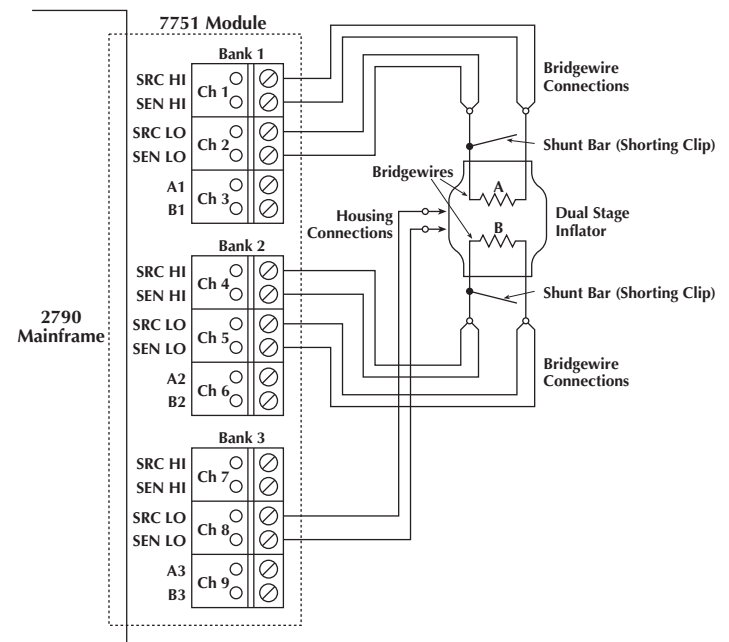
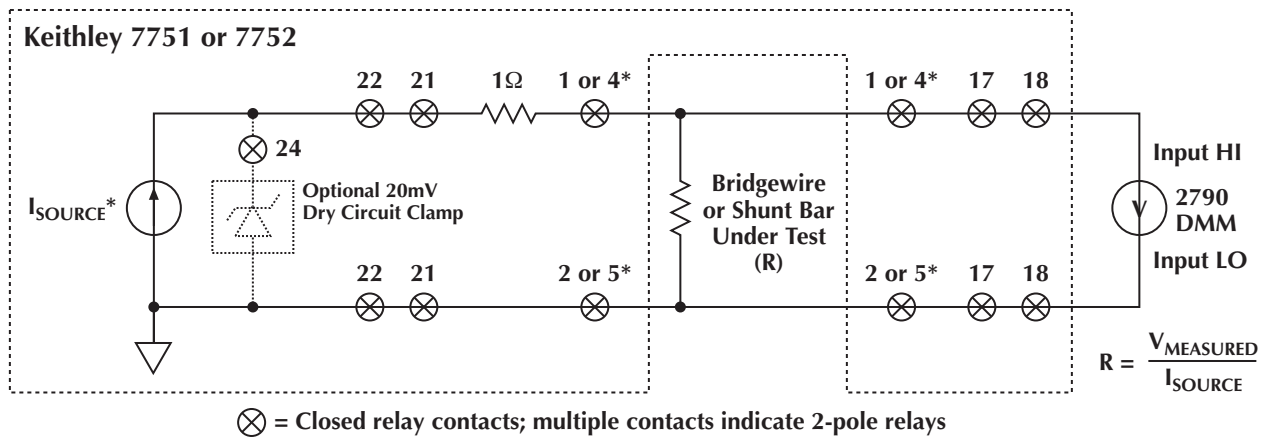
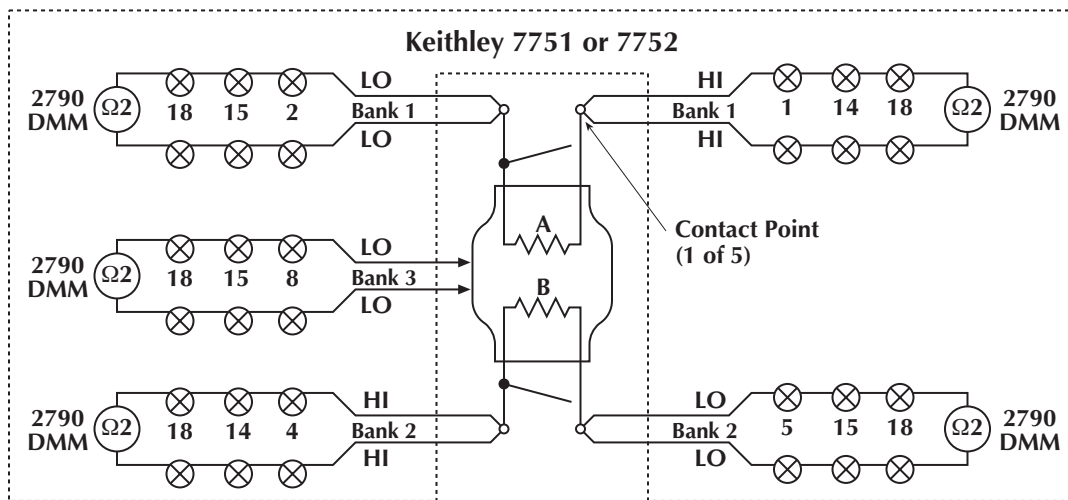

Figure 2. Typical Connections Between 7751 and a Dual Inflator Module
Figure 3. Circuit Configuration for Testing Bridgewire and Shunt Bar
Figure 4. Circuit Configurations for Contact Verification (Housing and Four-Wire Source/Sense Connections)
All of the switching required to connect the sources and measurement circuitry to the inflator is contained on the 7751 module. Cabling from the test stand is connected to the 7751 module via screw terminals. Figure 2 shows a typical connection scheme for testing a dual inflator. Relay channels 1 through 9 connect signals to and from the various parts of the inflator DUT, depending on which test is being performed. Channels 10 through 12 (Bank 4) are also available for connecting to the
Given the connections shown in **Figure 2**, **Figures 3** through **5** show the test circuits for the various tests that have been addressed. **Figure 3** shows the circuit for testing either the bridgewire or the shunt. Open relay channel 22 and close channels 1, 2, and 21 to select the current source and connect it to either bridgewire A or shunt A (if it is in place). Channel 22 is a Form C relay, and the current source is selected when it is in the normally open position. The DMM is connected across the bridgewire or the shunt by closing relay channels 1, 2, 17, and
**Figure 4** shows the test setup for performing contact verification. The wiring diagram in **Figure 2** shows two leads connected to each bridgewire (or shunt) terminal and to the housing.
By closing the different combinations of relays identified in Figure 4, it is possible to perform a two-wire ohms measurement on each pair of leads and verify good electrical contact. If both wires are electrically connected together, the resulting measurement can range from approximately  $12\Omega$  to several tens of ohms, depending on the type and length of the connecting cables. The minimum of approximately  $12\Omega$  is due to the internal circuitry of the switch modules. If the measured resistance is significantly higher, then it is likely that one or both of the leads are not contacting the terminals or housing.